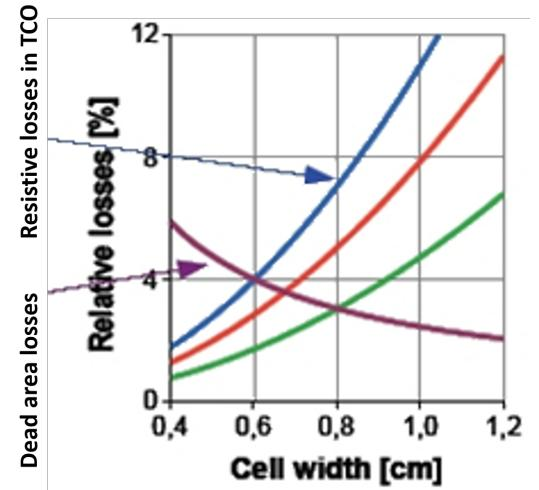

Figure 3: Larger cells have higher serial resistances in the TCO, but less dead material.
- Two opposite effects lead to an optimum width w for given Δw as can be seen in figure 3: On one hand, the laser scribe region Δw is 'dead' material, i.e. no current is produced there. Thus, the wider the cell is (large width w), the lower the relative losses due to the dead area Δw . On the other hand, too large stripes (large width w) lead to a drop of efficiency due to serial resistivity of the TCO.